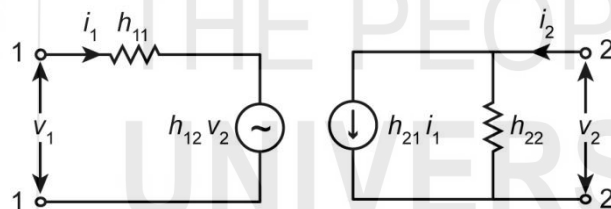
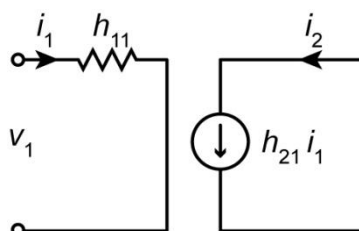
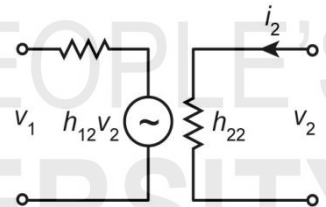

Fig. 5.3: 4-terminal network with h -parameters.
Fig. 5.4: h -parameter circuit with short circuited output.
Fig. 5.5: h -parameters circuit with open input terminals ($i_1 = 0$).
Fig. 5.3 shows the circuit with h -parameters.
Refer to Fig. 5.3. To understand the meaning of h_{11} and h_{21} , let us assume that the output terminals (2-2) are short circuited as shown in Fig. 5.4, then the output voltage v_2 will be zero.
After learning about the input impedance and current gain, let us find out the significance of remaining two h -parameters. For this purpose, we take the input terminals (1-1) in Fig. 5.3 to be open as shown in Fig. 5.5. With this, we get zero current entering the circuit from input side and so $i_1 = 0$. Hence, Eqs. (5.3) and (5.4) take the following form:
- In the circuit shown in Fig. 5.4, $v_1 = 50 \text{ mV}$, $i_1 = 20 \mu\text{A}$ and $i_2 = 4 \text{ mA}$. Calculate the input impedance and current gain of the circuit.
- In the circuit shown in Fig. 5.5, $v_1 = 50 \text{ mV}$, $i_2 = 4 \text{ mA}$ and $v_2 = 1 \text{ V}$. Calculate the reverse voltage gain and output admittance of the circuit.